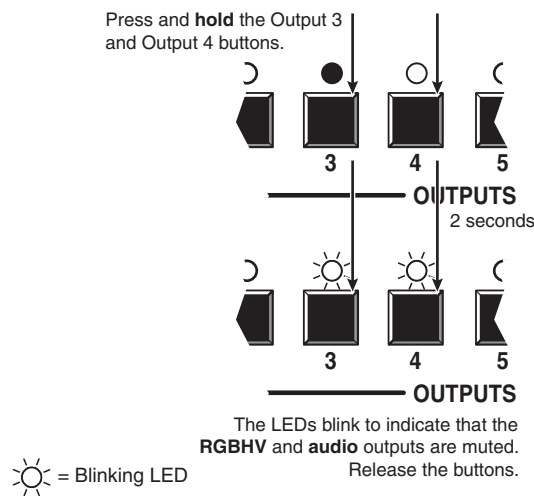

Figure 3-29 — Mute the outputs
- Press and **hold** the Output 3 button and the Output 4 button (figure 3-29) for approximately 2 seconds until the LEDs begin to blink. The output 3 and output 4 video and audio signals are muted.